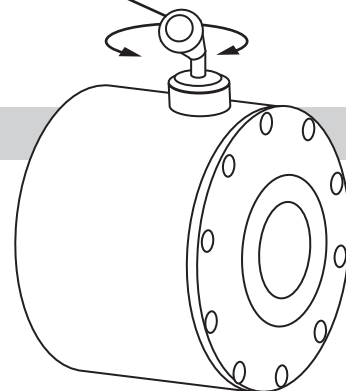

FIGURE 7
Turn clutch handle to the disengage position shown on decal (FIGURE 7). **NEVER RELEASE FREE-SPOOL CLUTCH WHEN THERE IS A LOAD ON THE WINCH. DO NOT FORCE THE HANDLE.** Release tension on the clutch by winching out some of the wire rope. Release the clutch and pull out the wire rope and secure to anchor or load. Check that there are at least five (5) wraps of wire rope left on the drum. Re-engage the drum by returning the clutch handle to the engaged position. (FIGURE 7)
- Step 6** Turn the freespool clutch handle to the Disengage position (**See FIGURE 7**). Pull 5 feet of wire rope off the drum. Return the freespool clutch handle back to Engaged position. Activate the Winch cable in and out by momentarily pressing the hand held switch to check drum rotation direction. The switch is labeled "IN" for winching in and "OUT" for winching out. When released the switch will automatically go to the off position. **IF THIS DOES NOT OCCUR THEN TAKE THE PLUG OFF THE RECEPTACLE.**